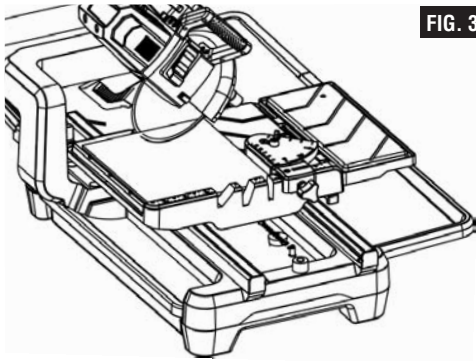

FIG. 35
- With hands firmly placed on fence and tile at the same time, ease the work table towards the blade to slowly feed the tile into the blade. Continue pushing until the blade cuts completely through the tile (Fig. 35).